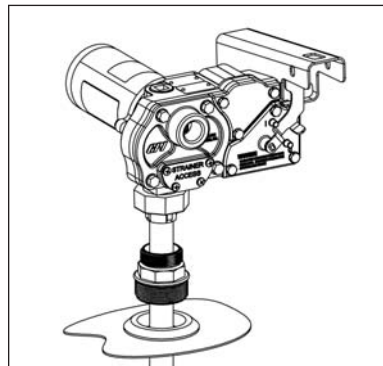

Figure 1
- Extend the suction pipe to its full length and insert into the tank opening. (Figure 1)